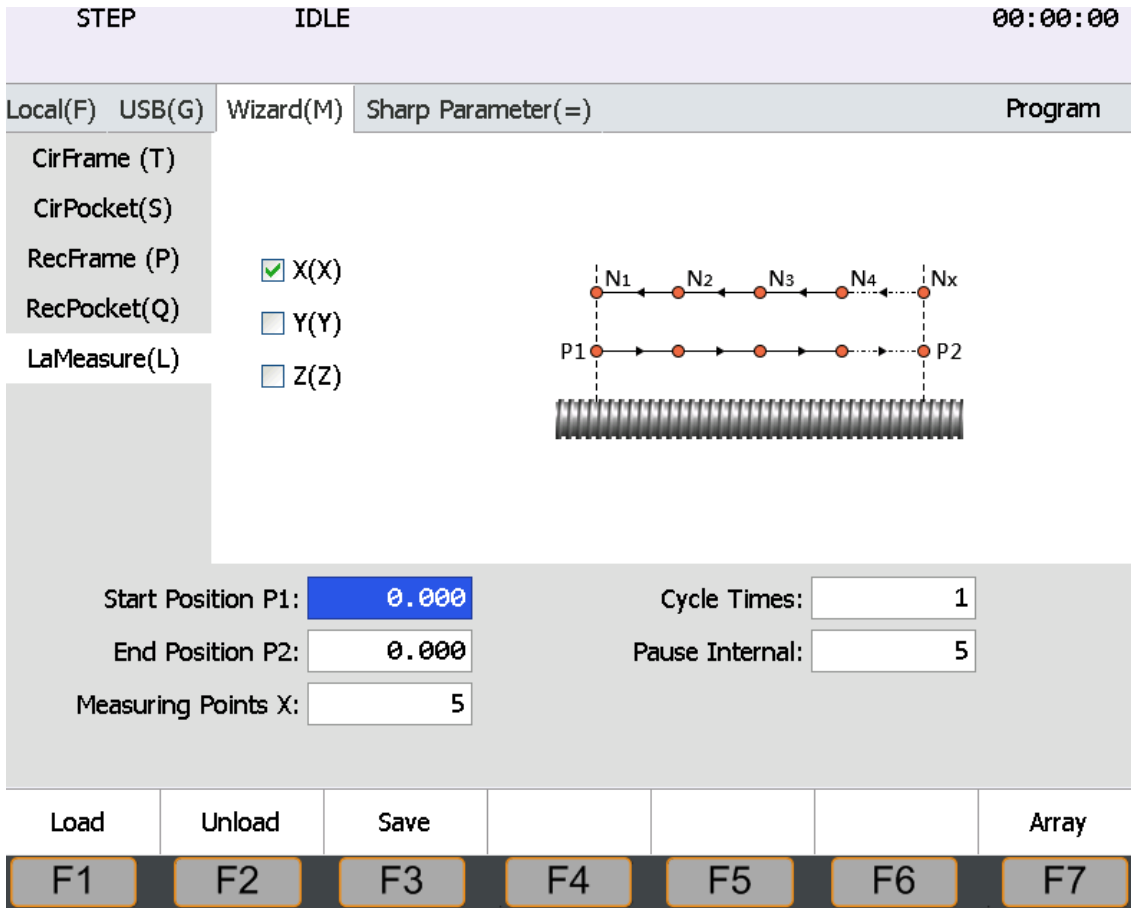

Figure 6-2 Screw compensation wizard
1. <Program> → <M Wizard> → <L LaMeasure > (pop-up interface shown in figure 6-2).